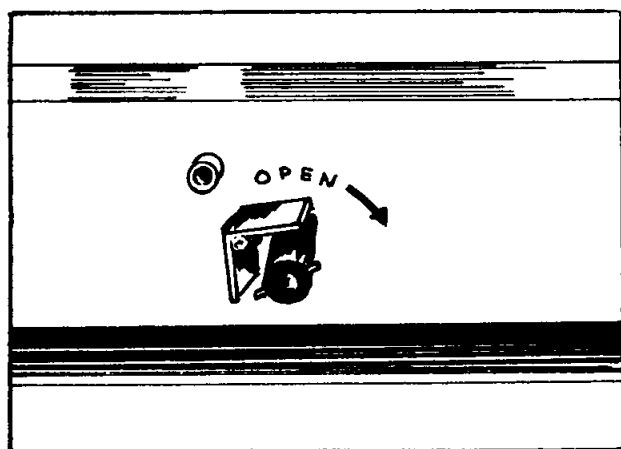

FIGURE 4
11. Turn the posi-action™ control handle clockwise to the "open" position (note decal) and rotate the crankshaft handle in a clockwise motion to raise the top. See Figure 4.